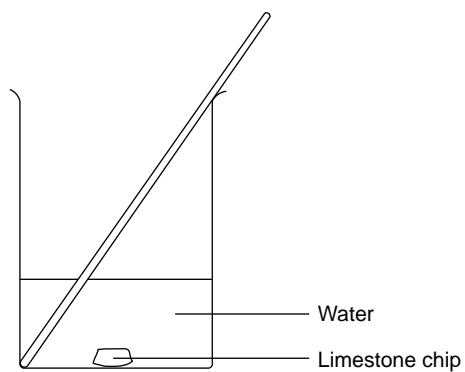

Fig 4
- Now add more water – about 15 cm³ – *Figure 4*, and stir with a glass rod to make a solution. There will still be a lot of unchanged limestone left.